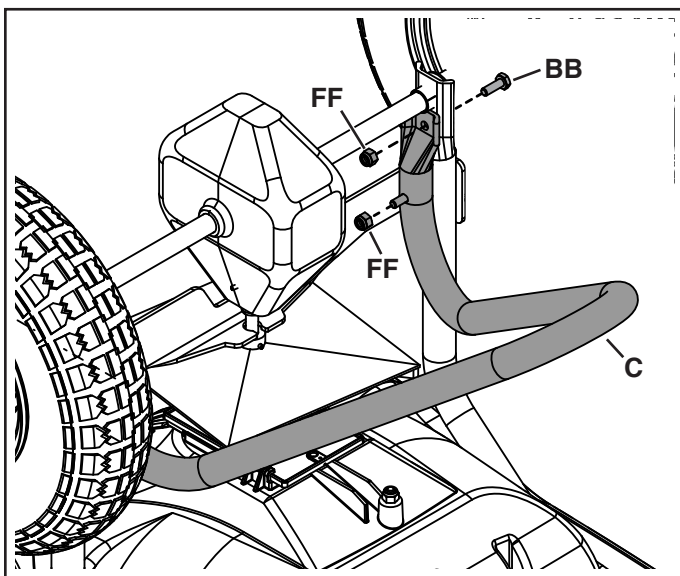

FIGURE 2
STEP 2: (SEE FIGURE 2)
- Attach the stand tube (C) to the hopper tubes using two 1/4-20 x 1-1/2 hex bolts (BB), the two pre-assembled bolts, and four 1/4-20 nylock nuts (FF).